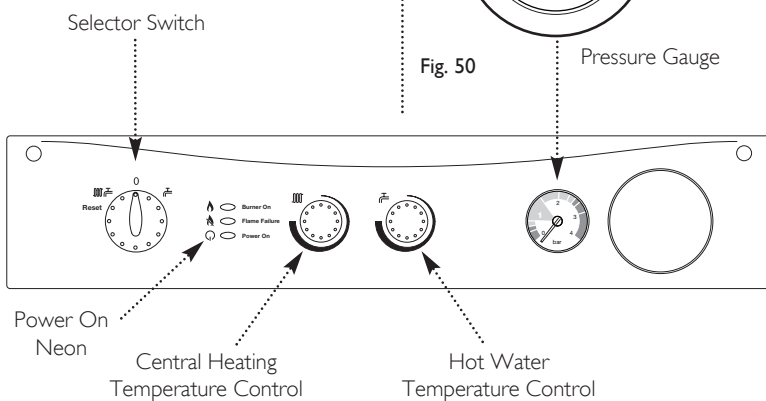

Fig. 51
2. Set the temperature controls to maximum and the selector switch to the Off position (Fig. 51).
5. Turn the selector switch fully anticlockwise against the spring pressure to the reset position and hold for 2 seconds to reset the boiler (Fig. 51).
6. Turn the selector switch to the Central Heating and Domestic Hot Water position (☰☷). The power On neon (⊕) will illuminate (Fig. 51).